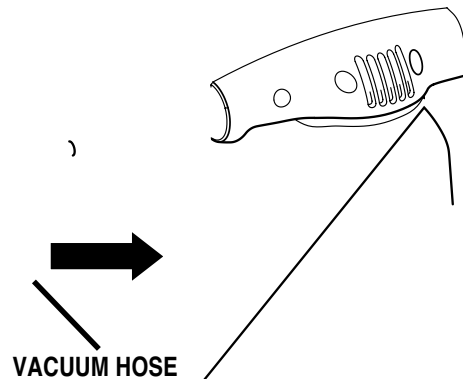

Fig. 5
See Figure 5.
- Attach vacuum hose to blower exhaust as shown in Figure 5.